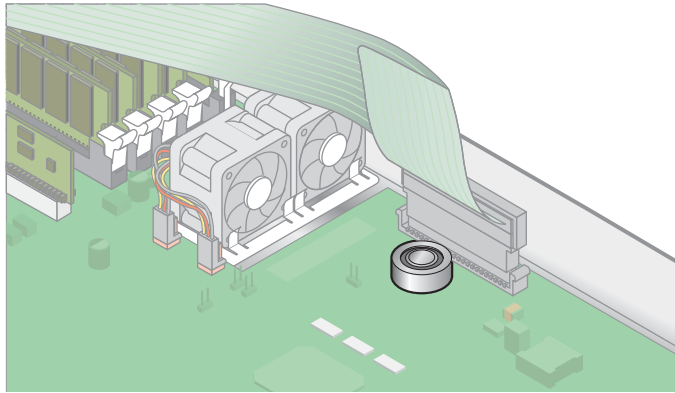

FIGURE 4-25 Removing the System Battery
2. Remove the system battery by sliding it back and prying it from the holder (see FIGURE 4-25 for the location).